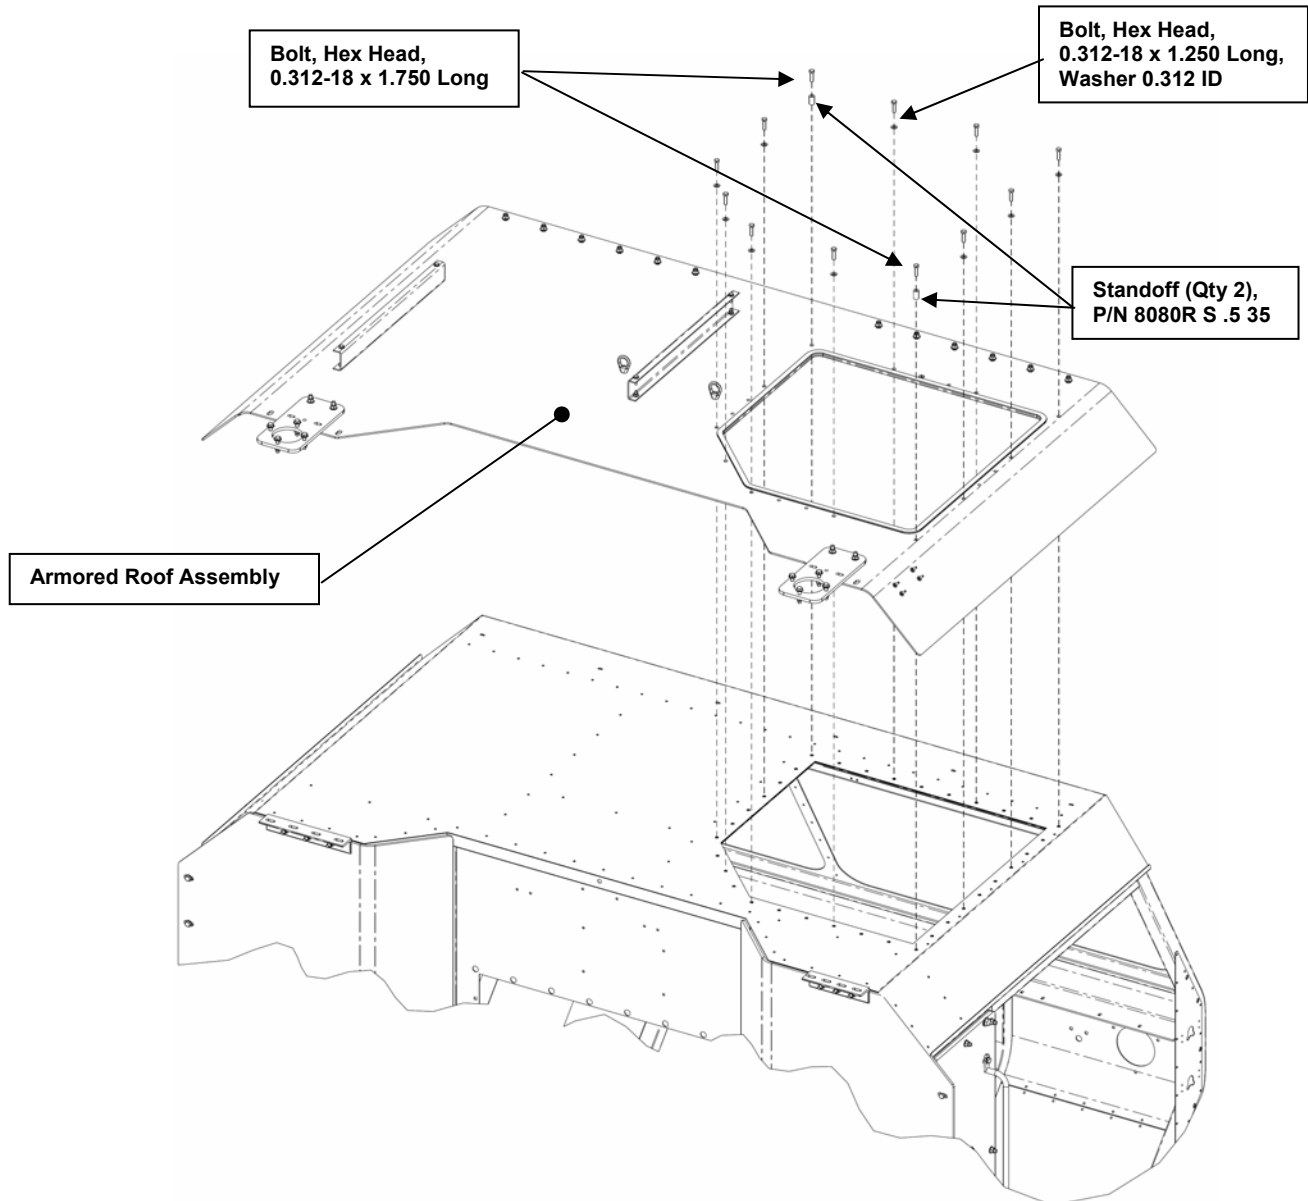

Figure 41. Armored Roof Panel installation.
- g) Once all the holes are lined up, insert the bolts and two Standoffs (P/N 8080r S .5 35) as shown in Figure 41, but do not fully tighten them. The bolts will be fully tightened once the two Rear Armor Panels have been attached to the Armored Roof Assembly panel.